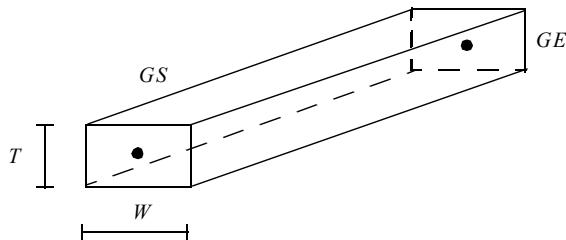

Figure 9-148 Dimensions of a CSEAM Element
1. The length of the SEAM is the distance between GS and GE. The width W of the SEAM is measured perpendicular to the length and lies in the plane of the patches A and B (see Figure 9-148). The width is also used to find the projection of the SEAM on the two patches A and B.